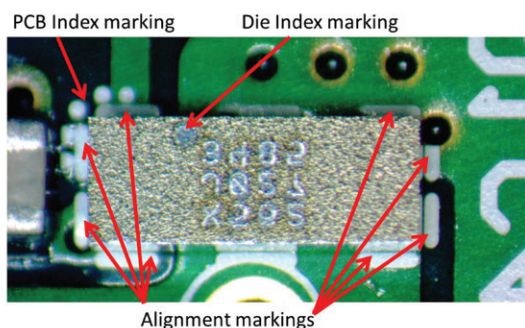

Figure 3: Correct die alignment within the silkscreen markings
- Check die orientation. There is a dot on the back surface of the die and there should be a corresponding index on the PCB indicating the correct orientation placement for the die on the PCB as shown in figure 3. Place the die within the silkscreen markings that are used for alignment as shown in figure 3. Moving the die excessively in an attempt to align the die within the silkscreen markings risk smearing the paste and can lead to open or short circuits.